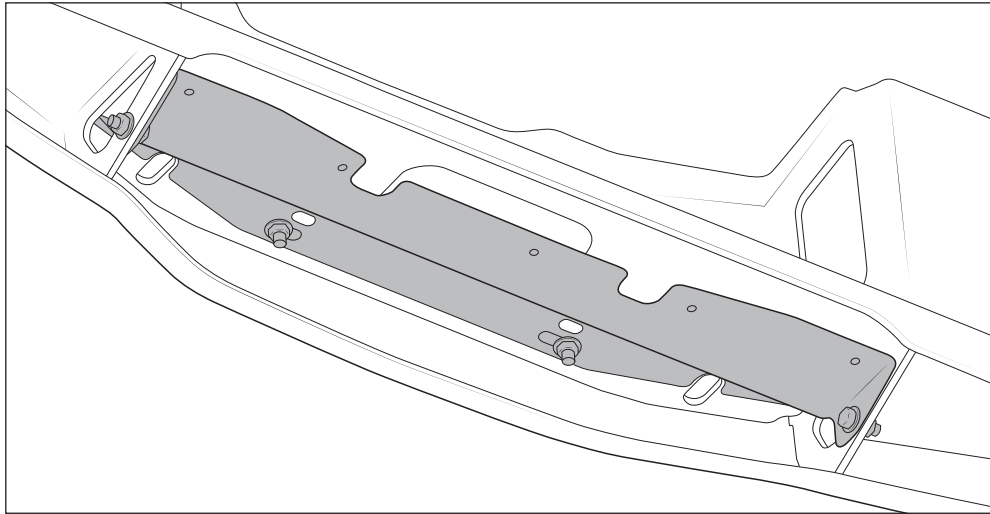

Figure 26
7. **2010–2013 trucks**—Install the AEV cooling shroud bracket to the bumper using the supplied 3/8” x 1” hardware (fig. 26). Make sure the bolts going through the winch mount are located so as not to interfere with the winch. NOTE: If the winch hardware is already using the front set of slots you can use this hardware to secure the cooling shroud bracket.